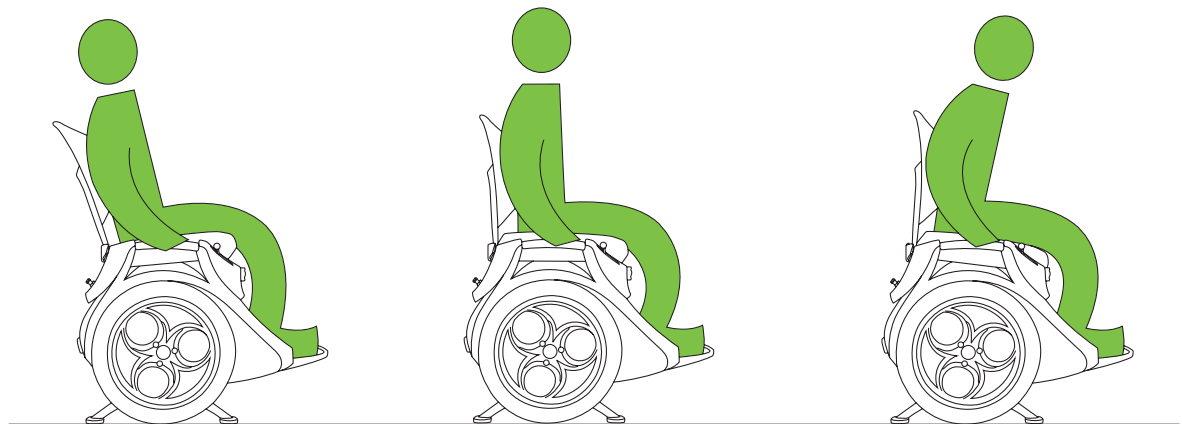

Figure 24: Getting your sense of balance.
9. Find a comfortable and balanced seating position, hold onto the Hand Grips and rock gently forward and back to get your sense of balance (**Figure 24**)